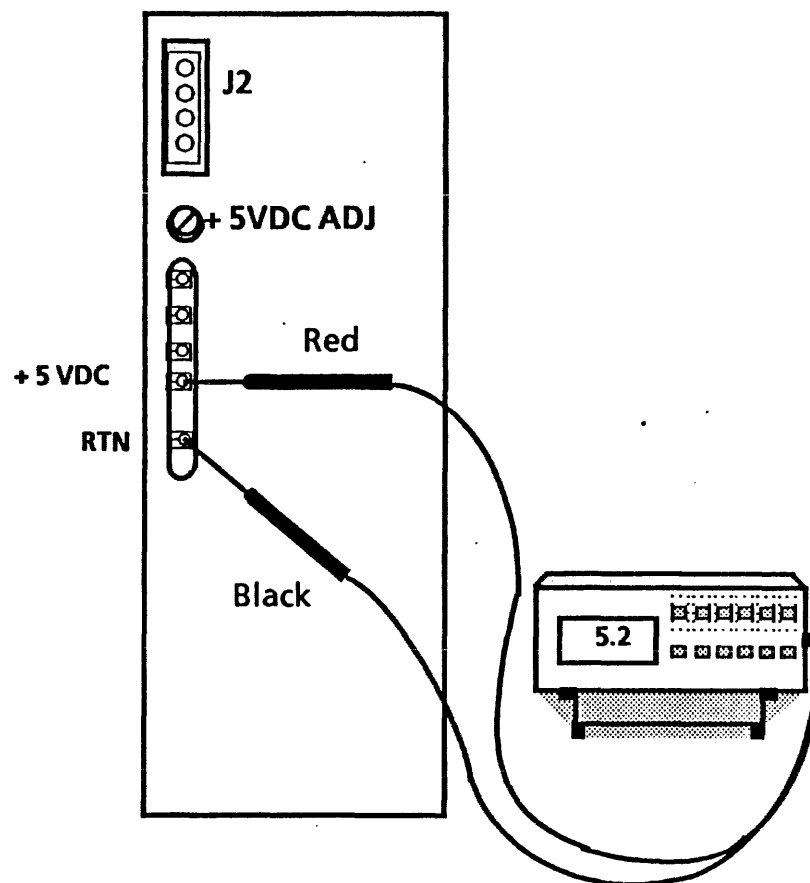

Figure 4-7 + 5VDC Check
2. Connect the meter leads to the test points as shown in Figure 4-7. It is not necessary to remove the rear cover to perform this check.